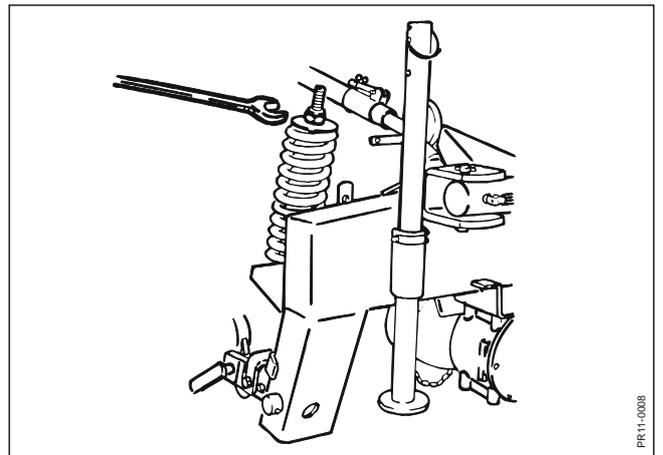

Fig. 3-3
- Fig. 3-3:** Adjust the ground pressure by tightening or loosening the pressure springs after having adjusted a suitable ground clearance (see section 2; CONNECTION AND TEST DRIVING) on the lift arms of the tractor. Adjust the stop of the lift arms so that it can easily be restored. If the lift arms are not good, use support chain 4220-8001 (auxiliary equipment).